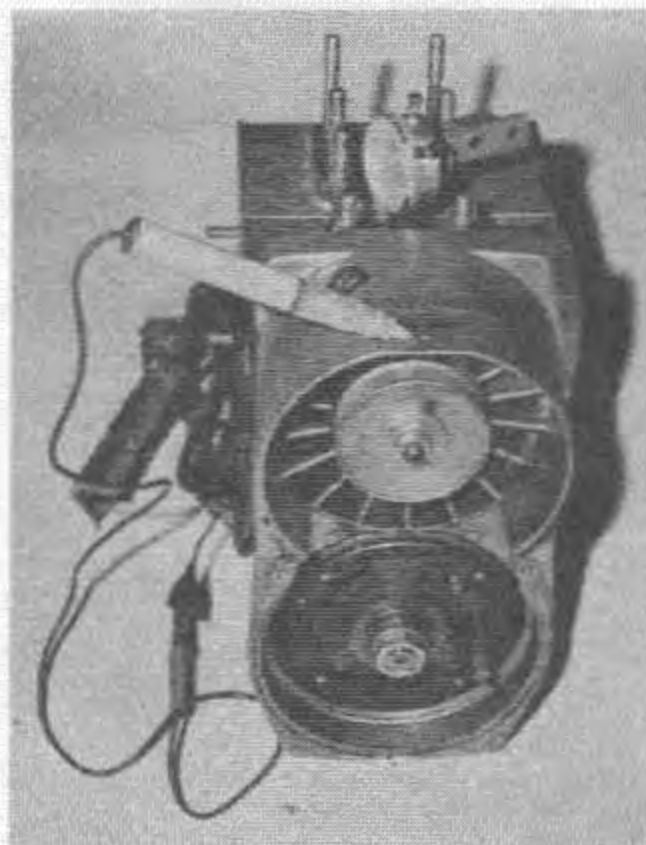

Fig. 24 — Checking Timing on Twin Cylinder Engine
10. Remove blue and yellow stripped wire from No. 2 ignition coil and attach to timing light and ground light to engine. See Fig. 24.